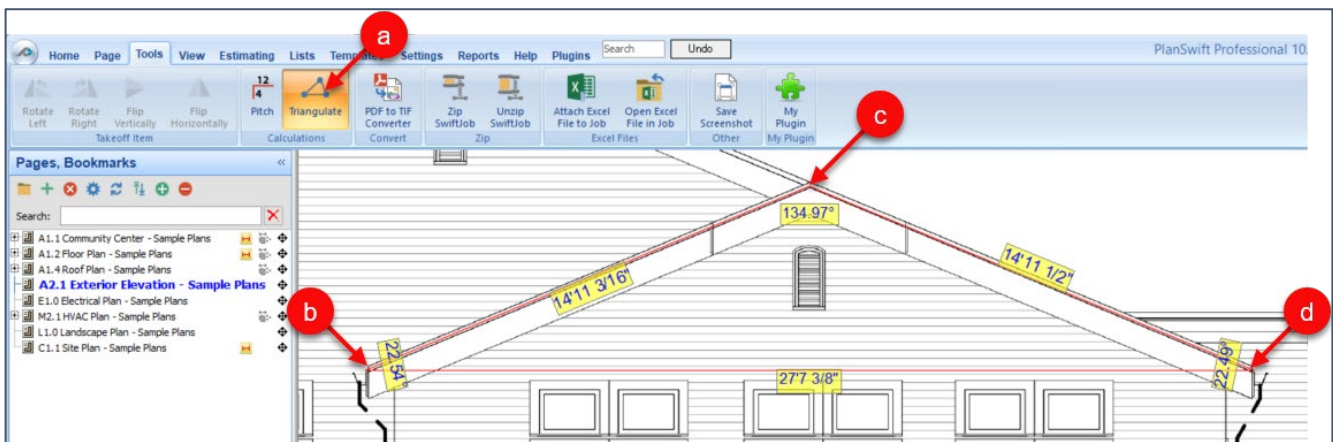

Figure 48-C
- a. Click on the **PDF to TIF Converter** button (Fig. 48-D).